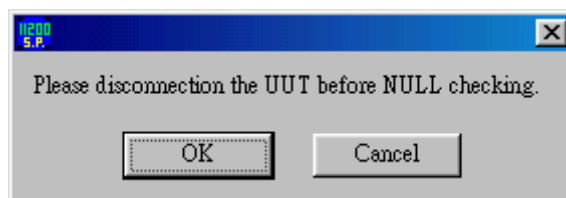

Figure 5-2 Message for Removing the UUT
- TRIG / TEST: It is the trigger button, where the left LED shows the state. It controls the trigger of output voltage and current charge state for the unit. The test stops automatically after triggered and enters into discharge state. Before triggering the unit, a message as Figure 5-2 shows will prompt to remind users to remove the UUT first.